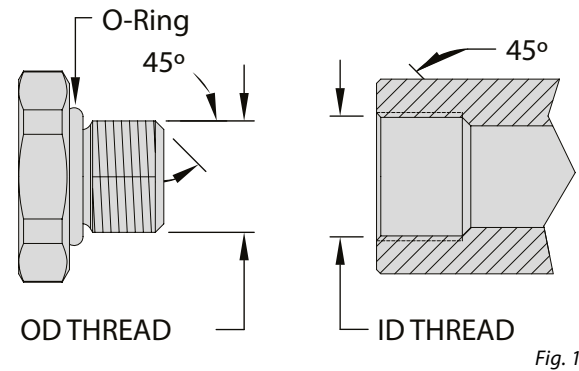

Fig. 10
**Society of Automotive Engineers O-ring Boss (SAE ORB)** is used in high pressure hydraulic systems. It has a straight thread that is sealed by compressing an O-ring on the male thread to a chamber on the female thread that guides the O-ring and applies the correct compression (Fig. 10).